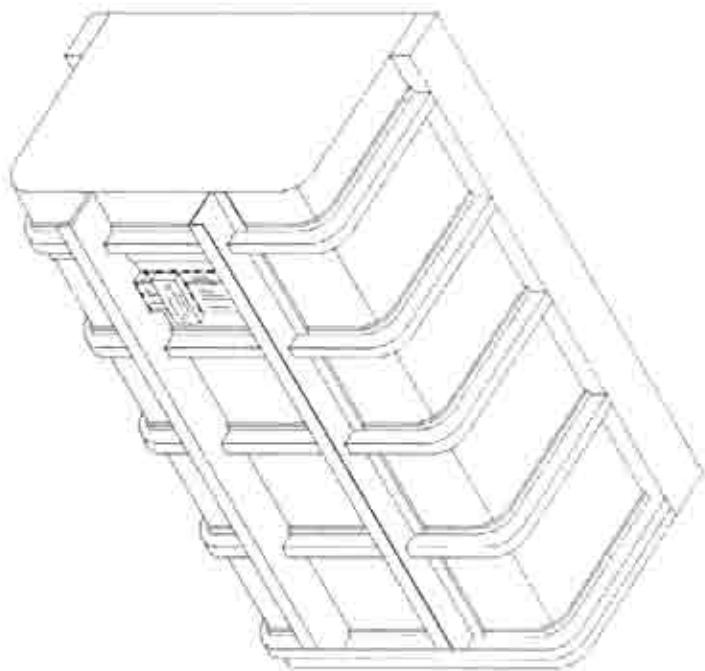

Fig. 5
1. Refer to the illustration that closely matches your truck (Fig. 5 or 6).
5. Skip weld mount plate to channel with E70S-3 mig wire or low hydrogen rod as shown in Fig.5 or 6